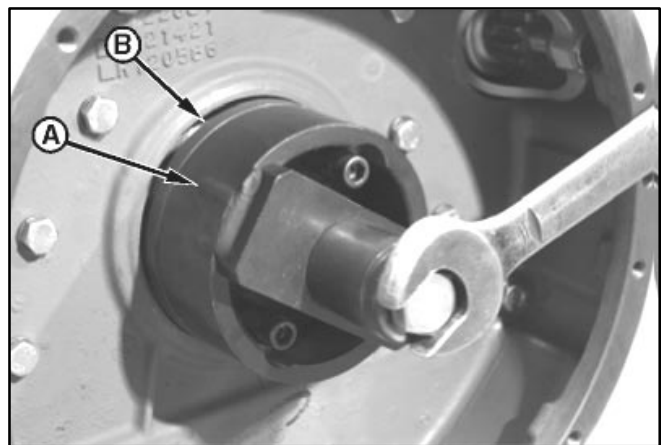

FIGURE 7-42. INSTALLING REAR OIL SEAL
4. To line up pilot JT30041A with the crankshaft, slide driver tool JT30042 on over the pilot until it bottoms. See (A) in Figure 7-42. Then tighten the two pilot cap screws (B) and remove the driver.
5. Handling the seal carefully, start the seal (B) over the pilot and crankshaft flange with the open side towards the engine. See Figure 7-42.
6. Slide driver tool JT30042 (A) back onto the pilot up against the seal. Using a thrust washer and screw, drive it all the way until it bottoms. See Figure 7-42.